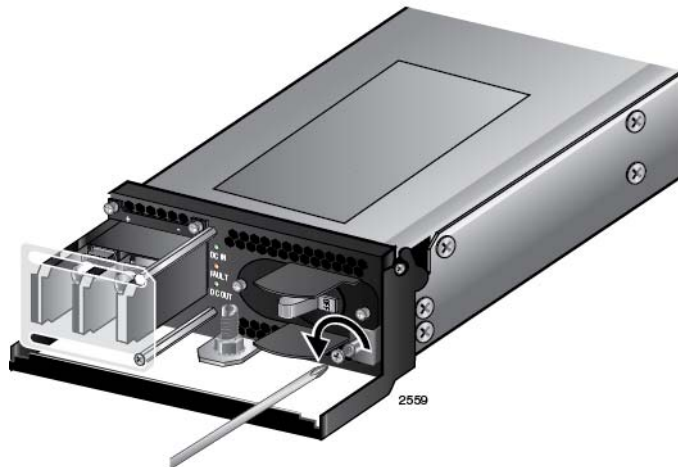

Figure 53. Loosening the Handle locking Screw on the AT-SBxPWRSYS1 DC System Power Supply
5. With a #2 Phillips-head screwdriver, loosen the handle locking screw on the power supply, as shown in Figure 53.